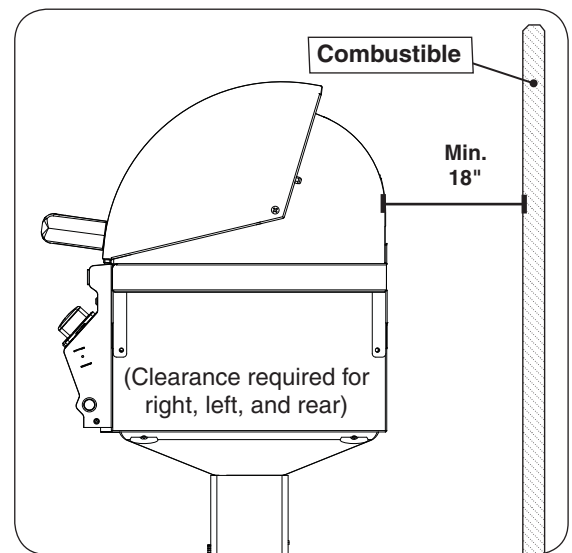

Fig. 11-3 Clearance 'B' Diagram
- The grill must have a minimum of 18" right, left, and rear clearance from any combustible wall (see Fig. 11-3).